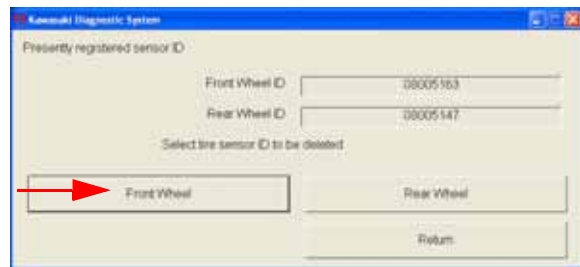

Fig. 5-18 TPMS ID
- o Currently registered sensor IDs are shown (Fig. 5-18).